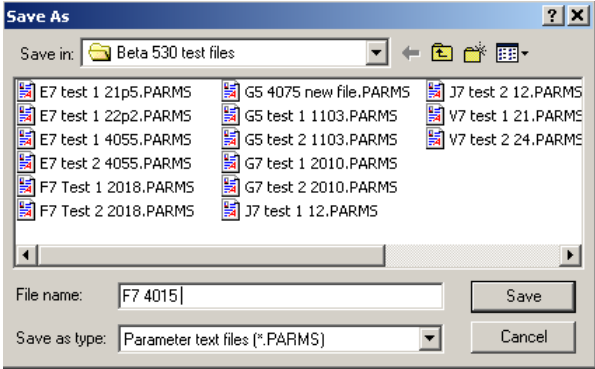
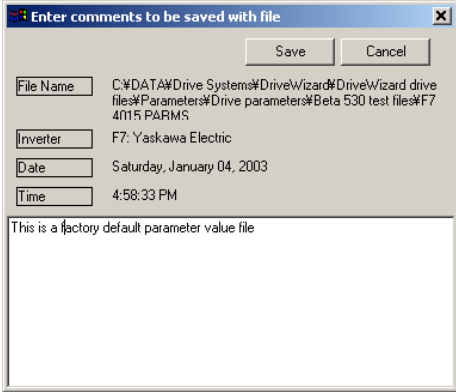

Figure 3.18: File Save Dialog Window
Figure 3.19: File Information Dialog Window
- 4. The file Save As window opens up (Figure 3.18). You then name and save the file in the appropriate location on your computer. Click on **Save** and a file comments window will open (Figure 3.19). Enter any comments in the window and click **Save** to save the file.